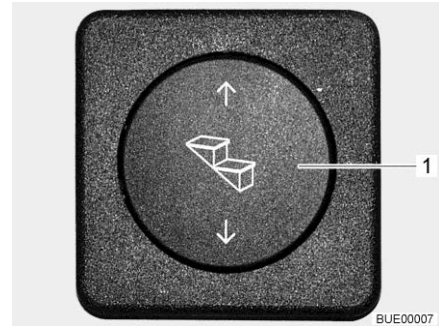

Fig. 11 Operating button for entrance step
- Press the operating button (Fig. 11,1) down and hold it pressed (at least 3 seconds) until the entrance step has extended completely.
- Press the operating button (Fig. 11,1) up until the entrance step has retracted completely.